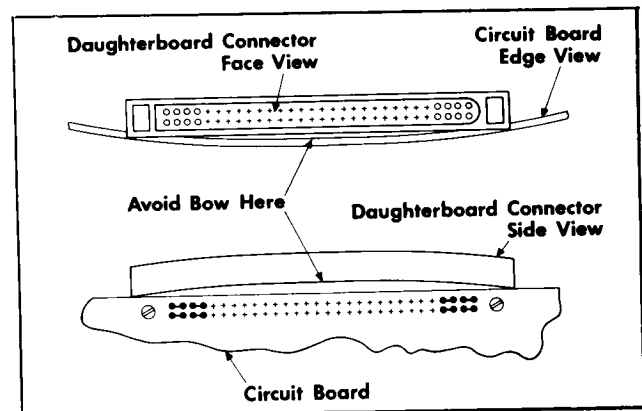

Figure 5. DB connector/circuit board assembly
- DB connectors should be loosely held on the printed wiring board prior to and during wave soldering. Care must be taken to ensure that the board does not bow away from the center of the connector during the soldering process. (Ref. figure 5) After soldering, mounting screws should be properly torqued.